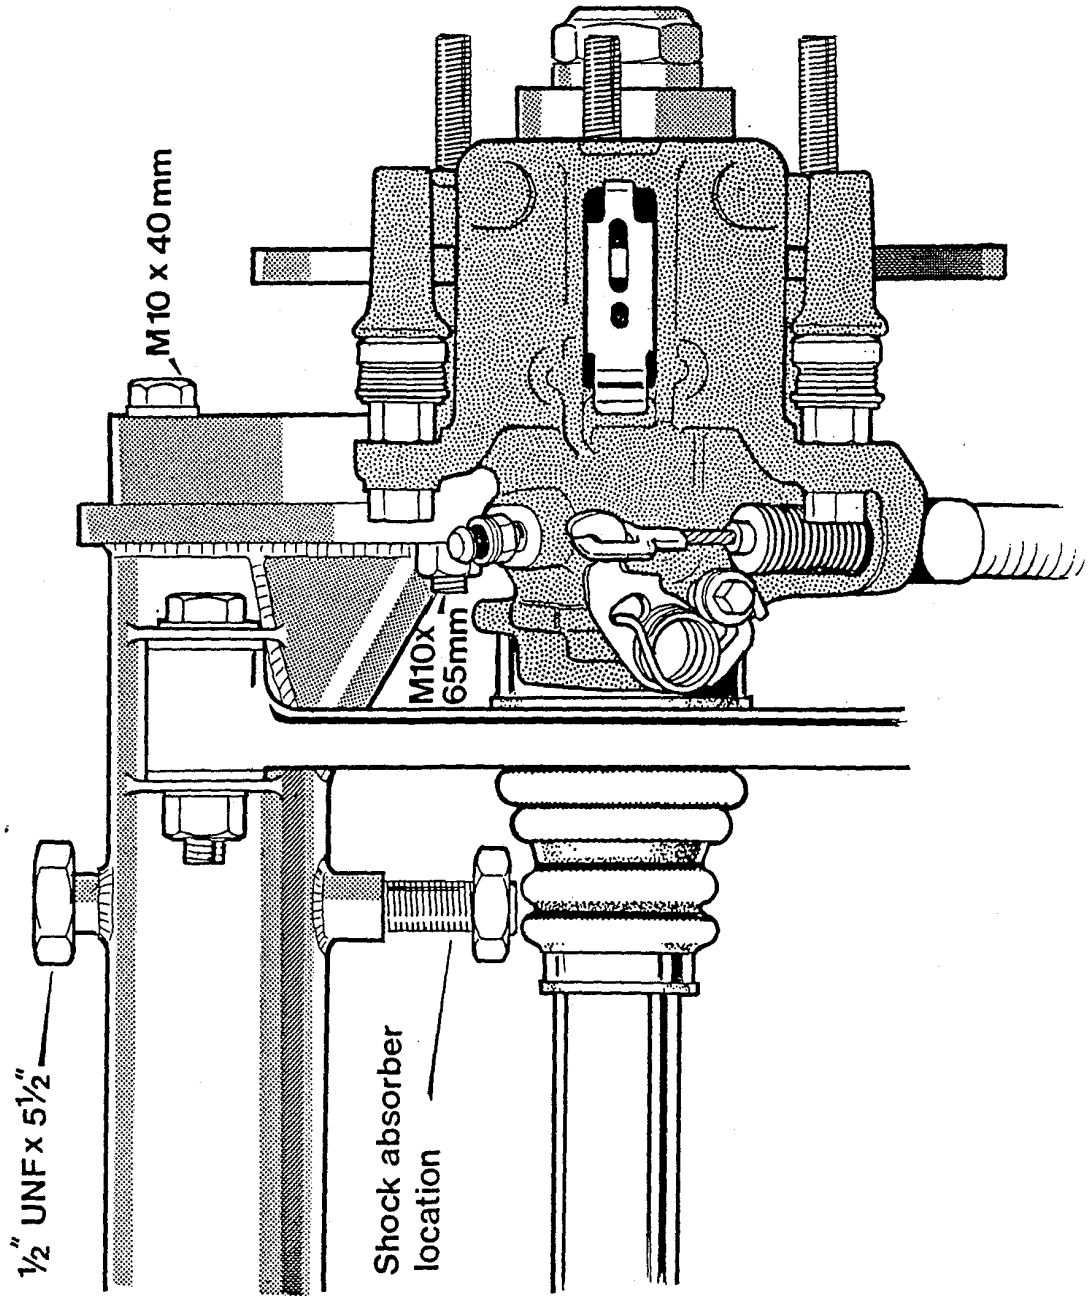

Fig. 7.3.4
3.4 Position one of the cast aluminium De Dion ears (these are not handed but the flange to which the brake calipers fit must be at the top) over one of the driveshafts and attach to the De Dion tube, noting that thin aluminium plates are fitted over the hollow ends of the tube. These holes in these plates are not symmetrical so ensure they align correctly. Bolt the ear into place using the 10mm x 40mm bolts with plain and spring washers into the tapped holes which are rearmost on the De Dion tube ear. It is possible that these bolts will not go fully home due to the depth of thread available. Should this be the case, add an additional plain washer in order to space out the bolt. Do not fully tighten at this stage, but when you DO, use Loctite to ensure these bolts do not work loose in service. (see Fig. 7.3.4.)